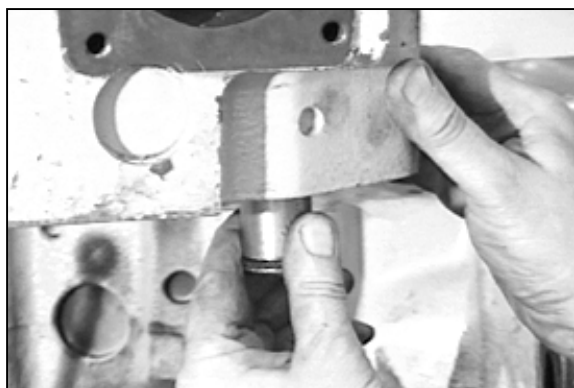

Fig.23 Fit new 'O' rings to the connector tubes and fit to the cylinder head.
5. Fit the connector tubes with new 'O' rings and fit the tubes to the cylinder head (**Fig.23**).